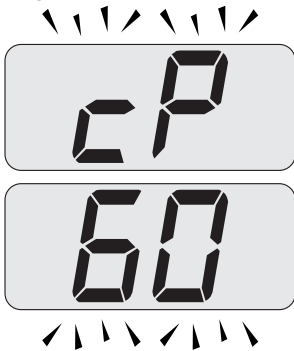

Fig. 10.21
- Press key 18 to vary the output in chimney sweep mode: when the LCD display displays the letters **hP** that alternate with the heating water temperature value (e.g. **60**), the "flue sweep function" is at maximum (eventually range rated) output in heating mode (Fig. 10.21).